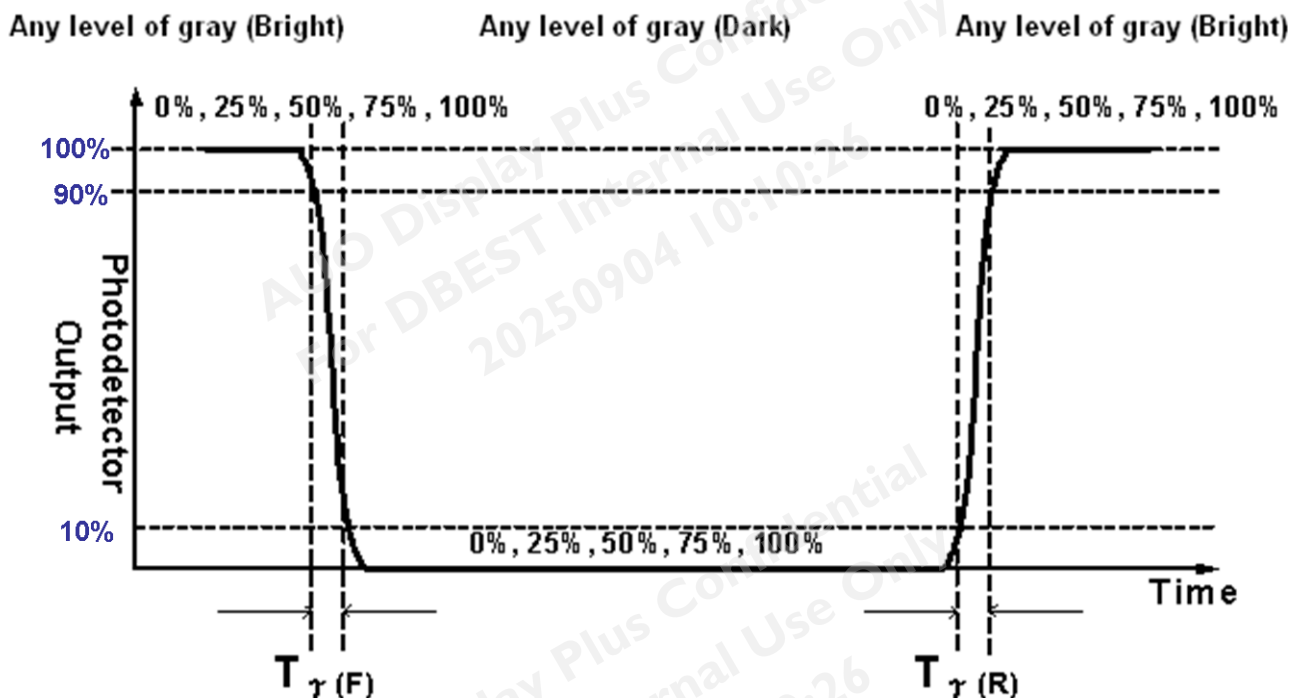

Fig. 2 Luminance
2. Surface luminance is luminance value at point 5 across the LCD surface 50cm from the surface with all pixels displaying white. From more information see **Fig. 2**. LED current I_F = typical value (without driver board), LED input $V_{DD1} = 24V$, I_{DDB} = Typical value (with driver board), $L_{WH} = L_{on5}$ where L_{on5} is the luminance with all pixels displaying white at center 5 location.